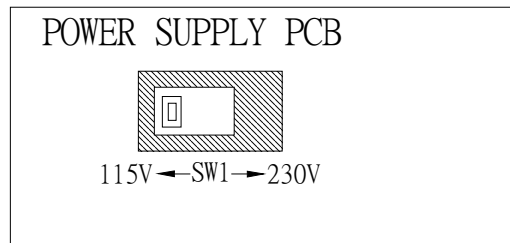

Figure 2-1 Set of the power switch
3. Refer the drawing on the PC board in Fig 2-1, set the switches to the proper voltage as describe in the following: